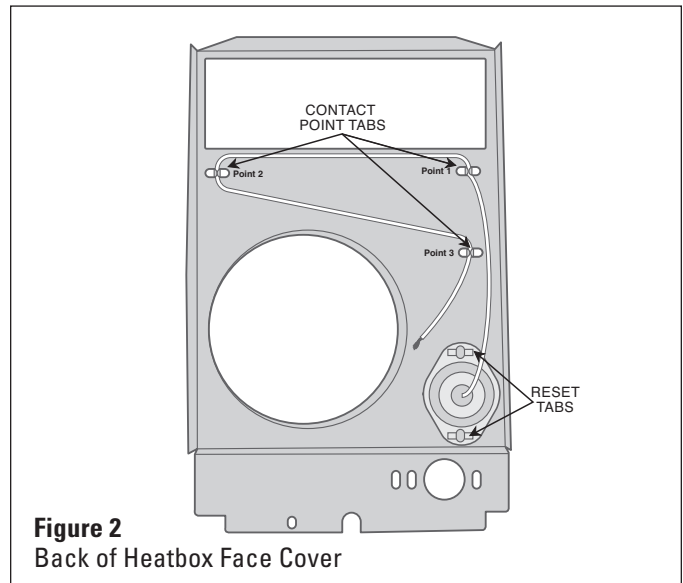

Figure 2
7. Turn face cover so reset limit and wires are facing you. Carefully unclamp contact point tabs using a flathead screwdriver (See Figure 2).
10. Place copper wire in contact point tabs as shown in Figure 2. Clamp wire in place with pliers, being careful not to damage, kink or cut copper wire. Be sure capillary tube (limit tubing) lays flat against cover. (See Figure 2)